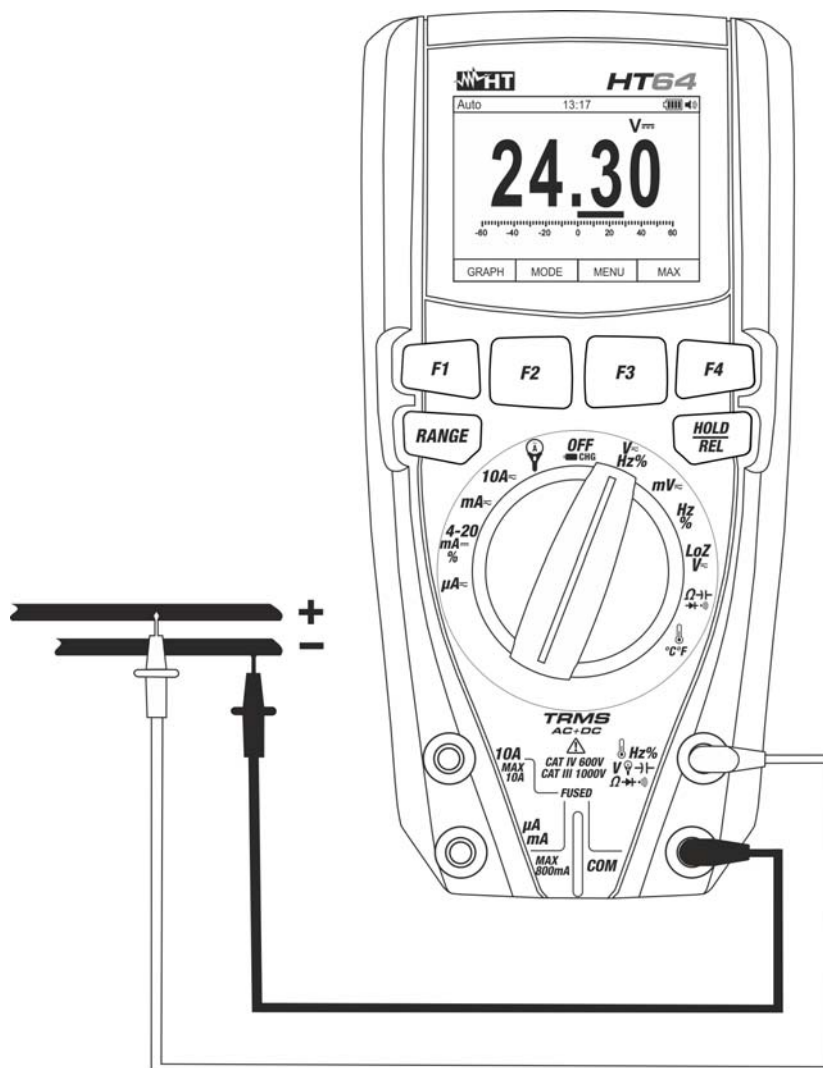
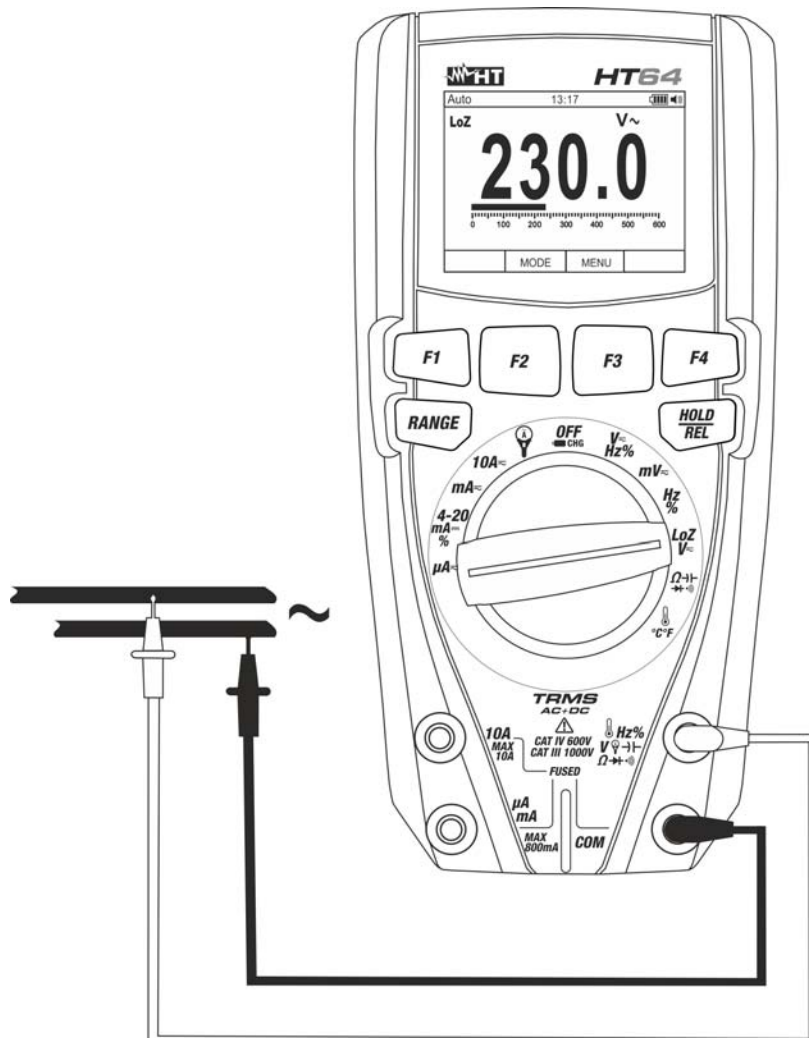

Fig. 22: Use of the instrument for DC voltage measurement
Fig. 24: Use of the instrument for AC/DC voltage measurement with low impedance (LoZ)
3. Position the red lead and the black lead respectively in the spots with positive and negative potential of the circuit to be measured (see Fig. 22). The display shows the value of voltage.
5. When symbol "-" appears on the instrument's display, it means that voltage has the opposite direction with respect to the connection in Fig. 22.
4. Position the red lead and the black lead respectively in the desired spots of the circuit to be measured (see Fig. 24) or in the spots with positive and negative potential of the circuit to be measured (see Fig. 22). The display shows the value of voltage.
6. When symbol “-” appears on the instrument’s display, it means that voltage has the opposite direction with respect to the connection in Fig. 22